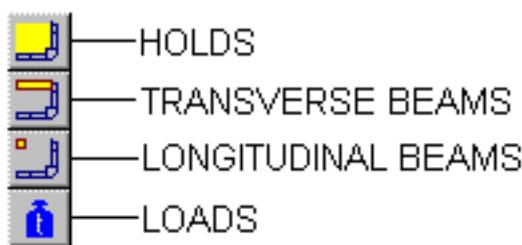

Figure 2 : TORSION TOOLBAR
- click on the *hold* button (Figure 2),